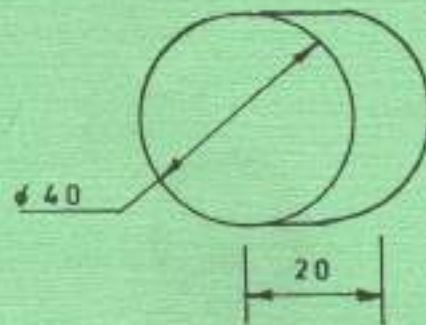

Fig. 1
1. (a) **Figure 1** shows a piece of solid round steel of diameter 40 mm and length 20 mm.